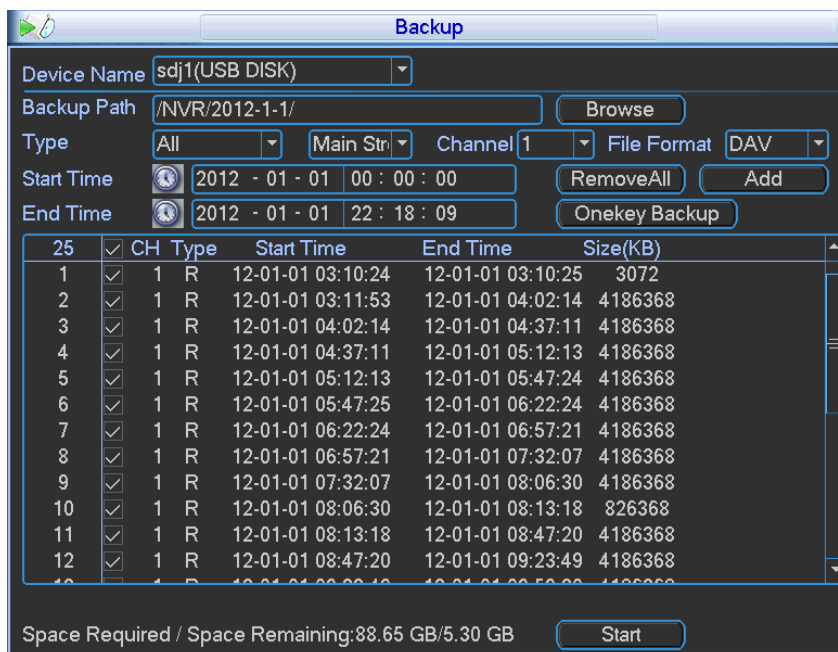

Figure 3-105
- e) Set channel, file start time and end time. Click add button, system begins search. All matched files are listed below. System automatically calculates the capacity needed and remained. See Figure 3-105.